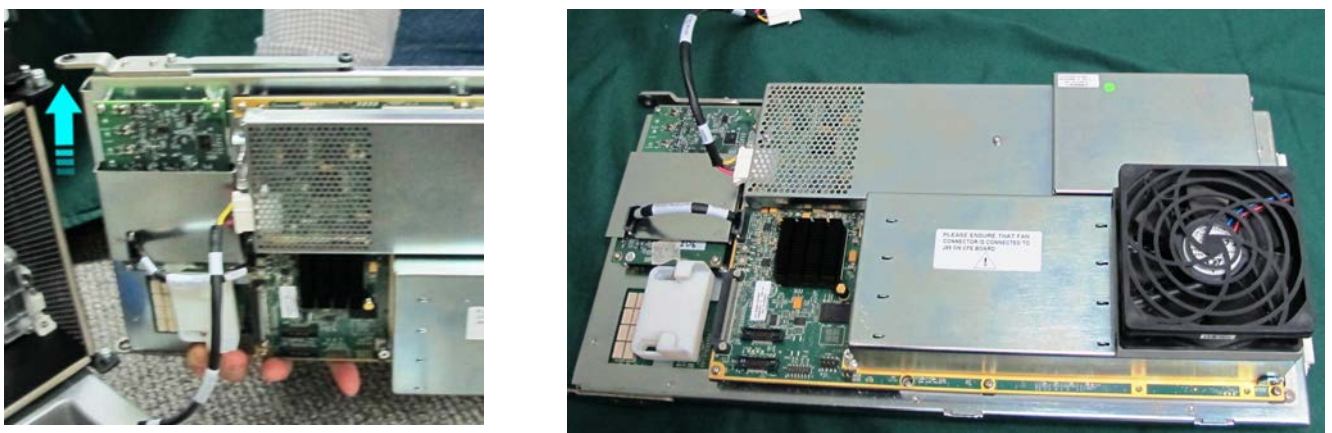

Figure 8-111 Removing the Front End Door Assembly from the Securing Hinge
- 8.) Carefully lift the cage *upwards* to free it from the securing hinge (see Figure 8-111) and place it on a clean, stable surface.
- 1.) Carefully lift the Front End Door Assembly into position on the electronic cage, taking care to mount it properly on the securing hinge - refer to Figure 8-111 on page 8-86.